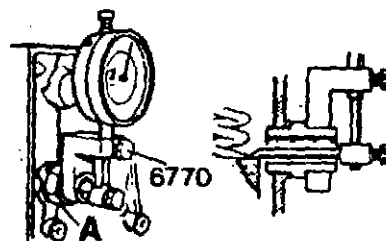

Fig. 3
5. Tool 9996770-5: Fit the tool's threaded sleeve A, fig. 3, on the injection pump. NOTE! without washer. Lift the measuring point and fit the dial indicator together with the fixture on the threaded sleeve. The measuring point must be turned as per figure. NOTE! Adjust the pin so it does not touch the bottom of the sleeve.